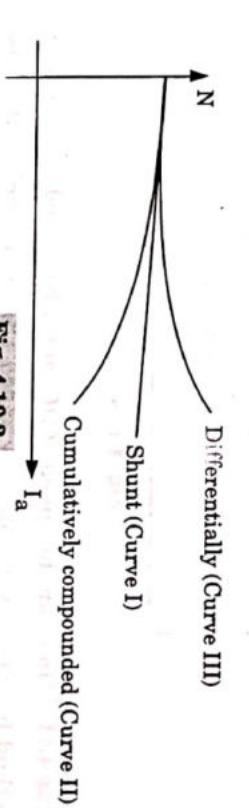

Fig. 4.10.2.
- Speed  $N$  decreases as  $N \propto \frac{1}{\phi_T}$ . This is shown in characteristics by curve II in Fig. 4.10.2.
- Speed  $N$  will increase, since  $N \propto \phi_T$ . This is shown by curve III in Fig. 4.10.2.